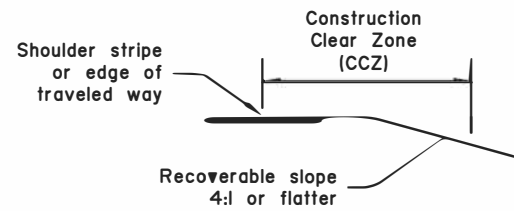

FIGURE 1
1. Measure CCZ from the shoulder stripe. If there is no shoulder stripe, measure from the edge of the traveled way. See Figure 1.